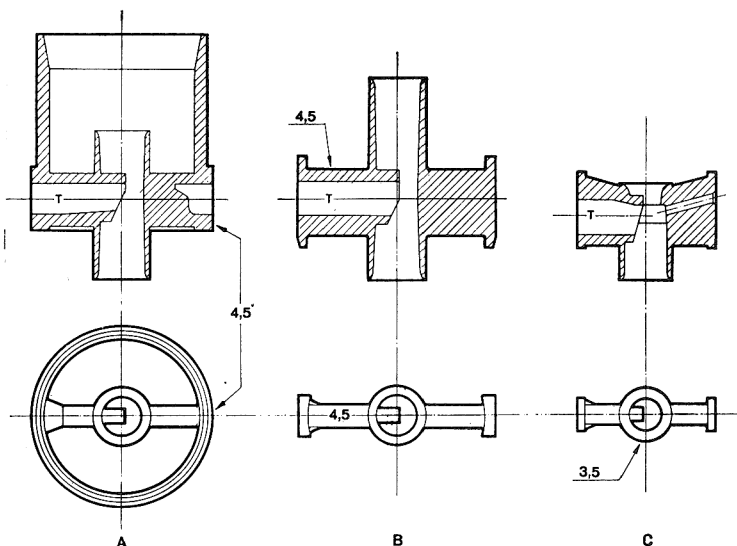

FIG. 33
2) Auxiliary or secondary Venturi - Fig. 33